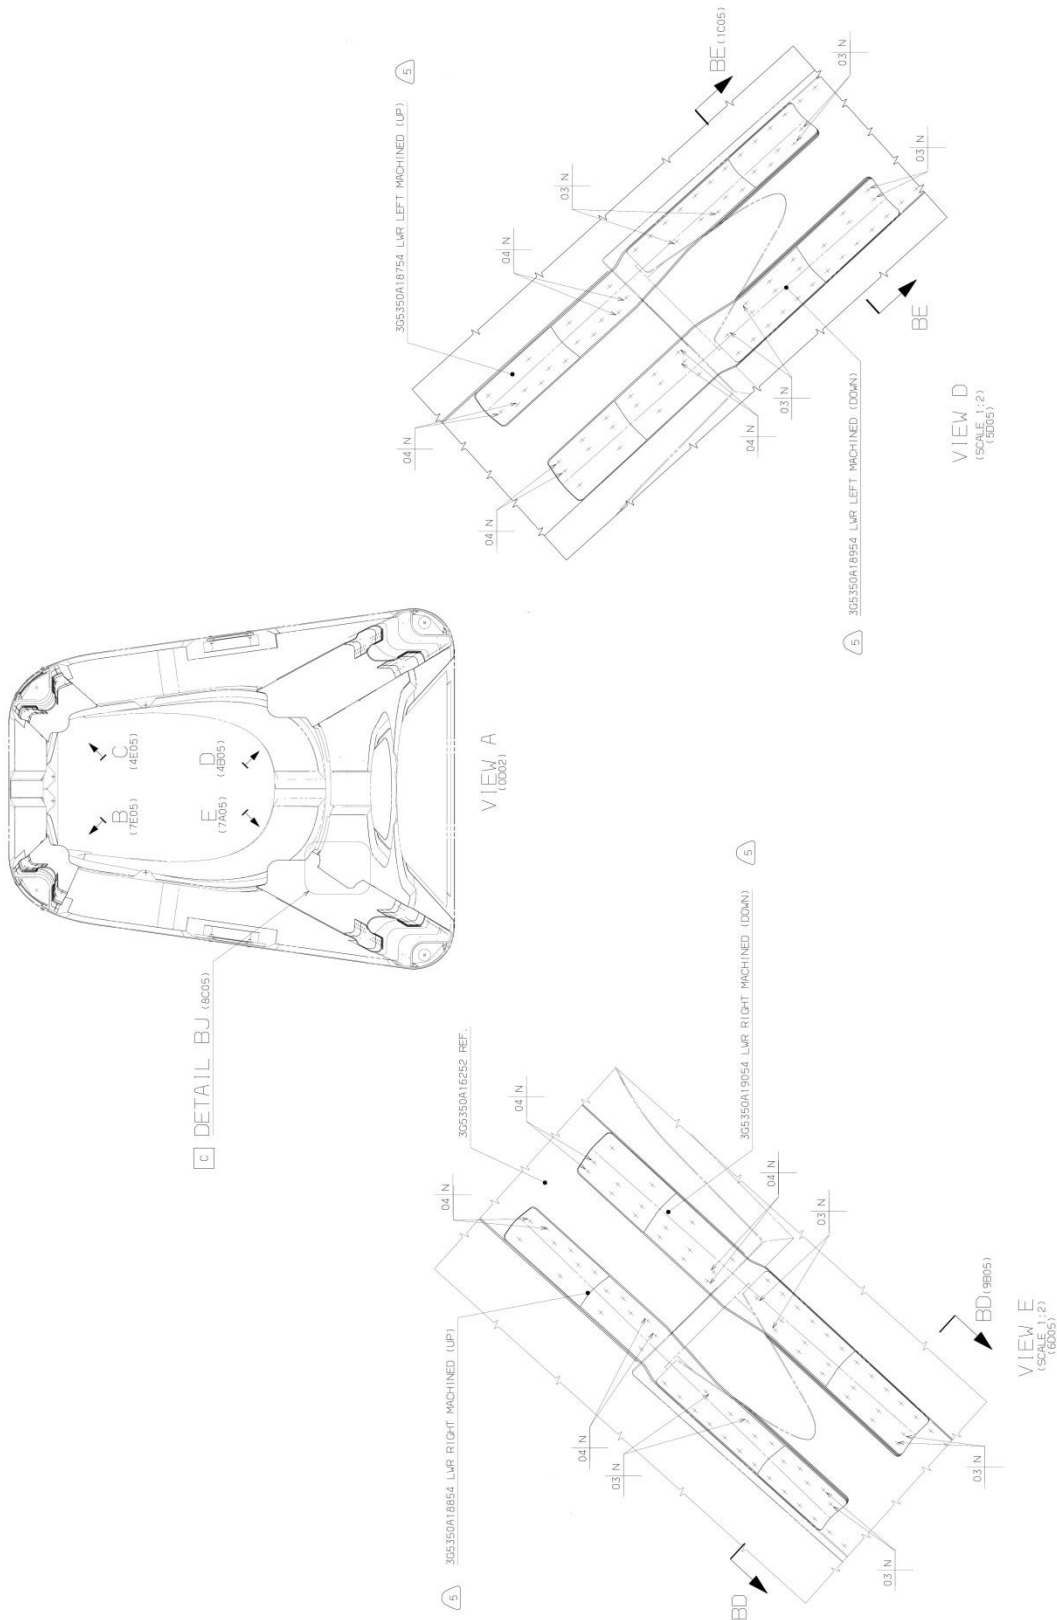

Figure 3
**Rivet list for figures from Figure 1to Figure 3**